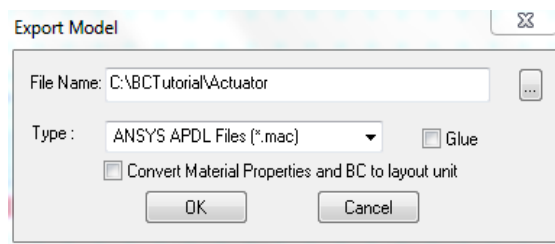

Figure 160: Export 3D Model dialog.
- ☑ In the floating **MEMS Pro Toolbar**, select **Export 3D Model** from the **3D Tools** menu to open the **Export 3D Model** dialog, as shown in (Figure 160).